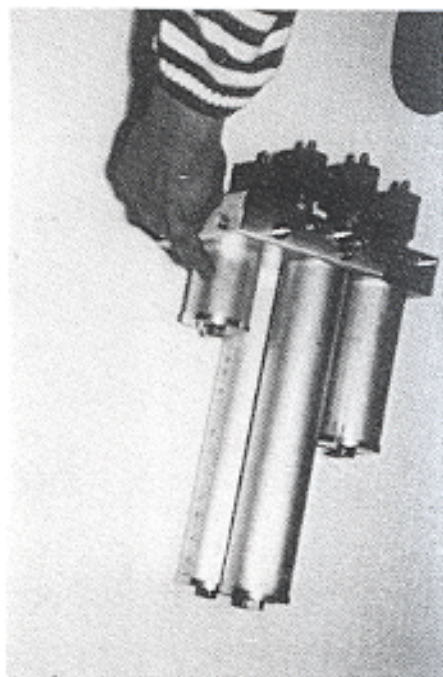
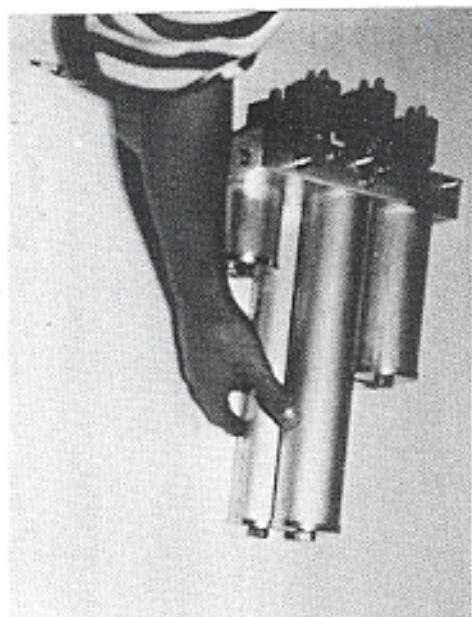
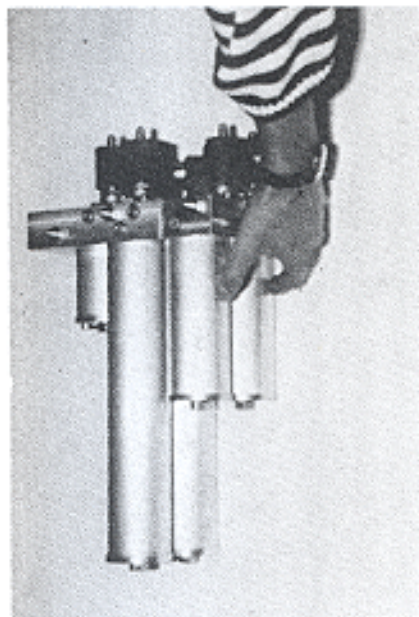

Fig.13
Fig. 14
Fig. 15
On the dryer block (pos 16, page 12) the oil filter (fig 13), drying medium refrigerant (fig 14), drying medium air (fig 15) have to be changed.